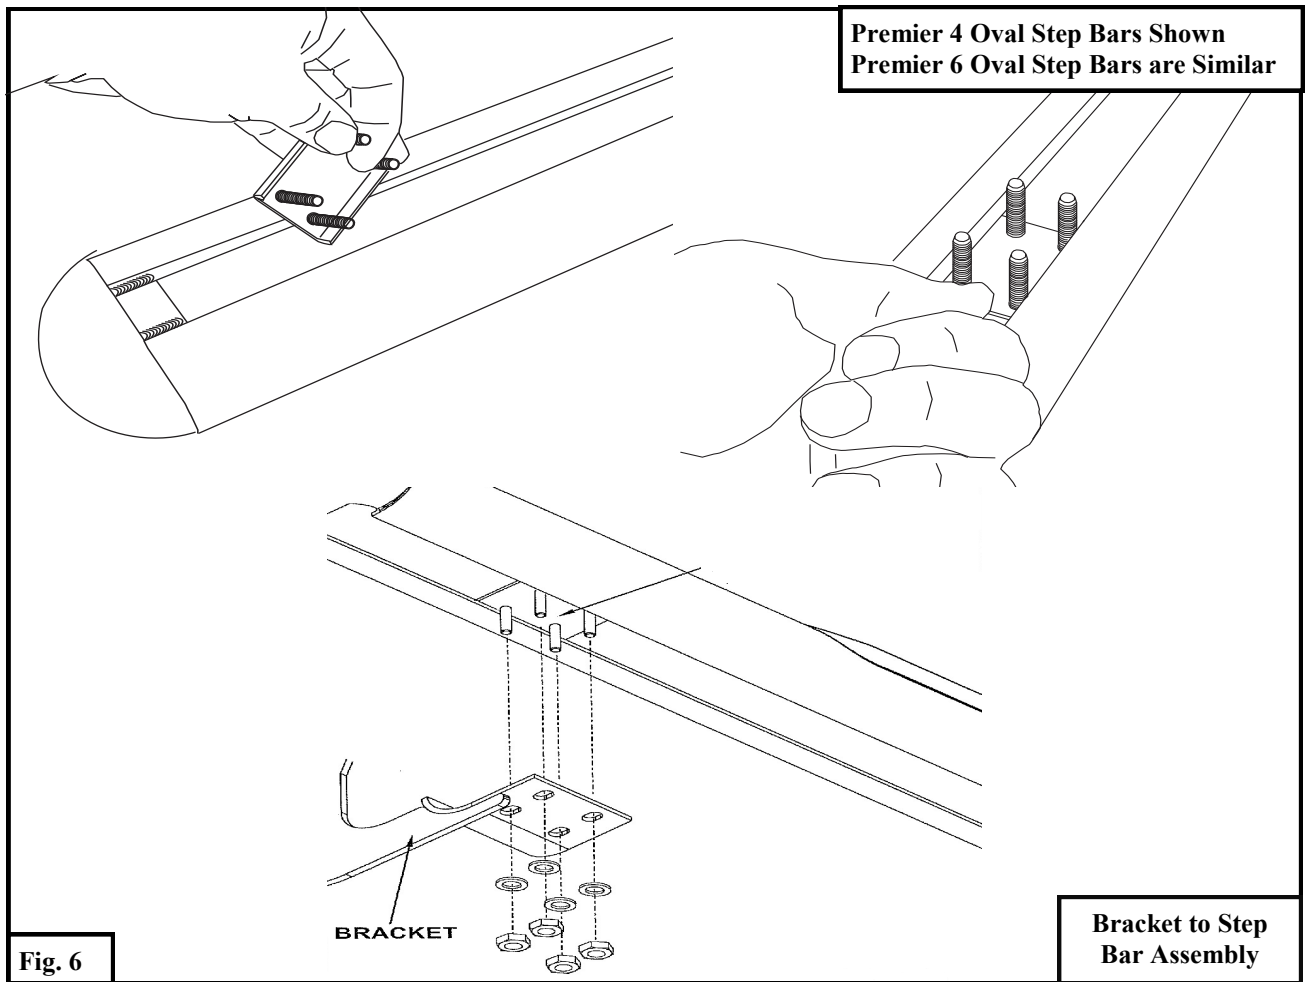

**Fig. 4**
- At the center passenger mounting location, loosely install the Passenger Side Center Mounting Bracket (4) with the preassembled Universal Bracket (5) using the supplied M8 hardware (6-8). **Note:** Installation is similar Bracket A (1). See **Figure 4**.
- At the front passenger mounting location, loosely install the Mounting Bracket B (2) with preassembled Universal Bracket (5) using the supplied M8 hardware (6-8). **Note:** Installation is similar Bracket A (1). See **Figure 4**.